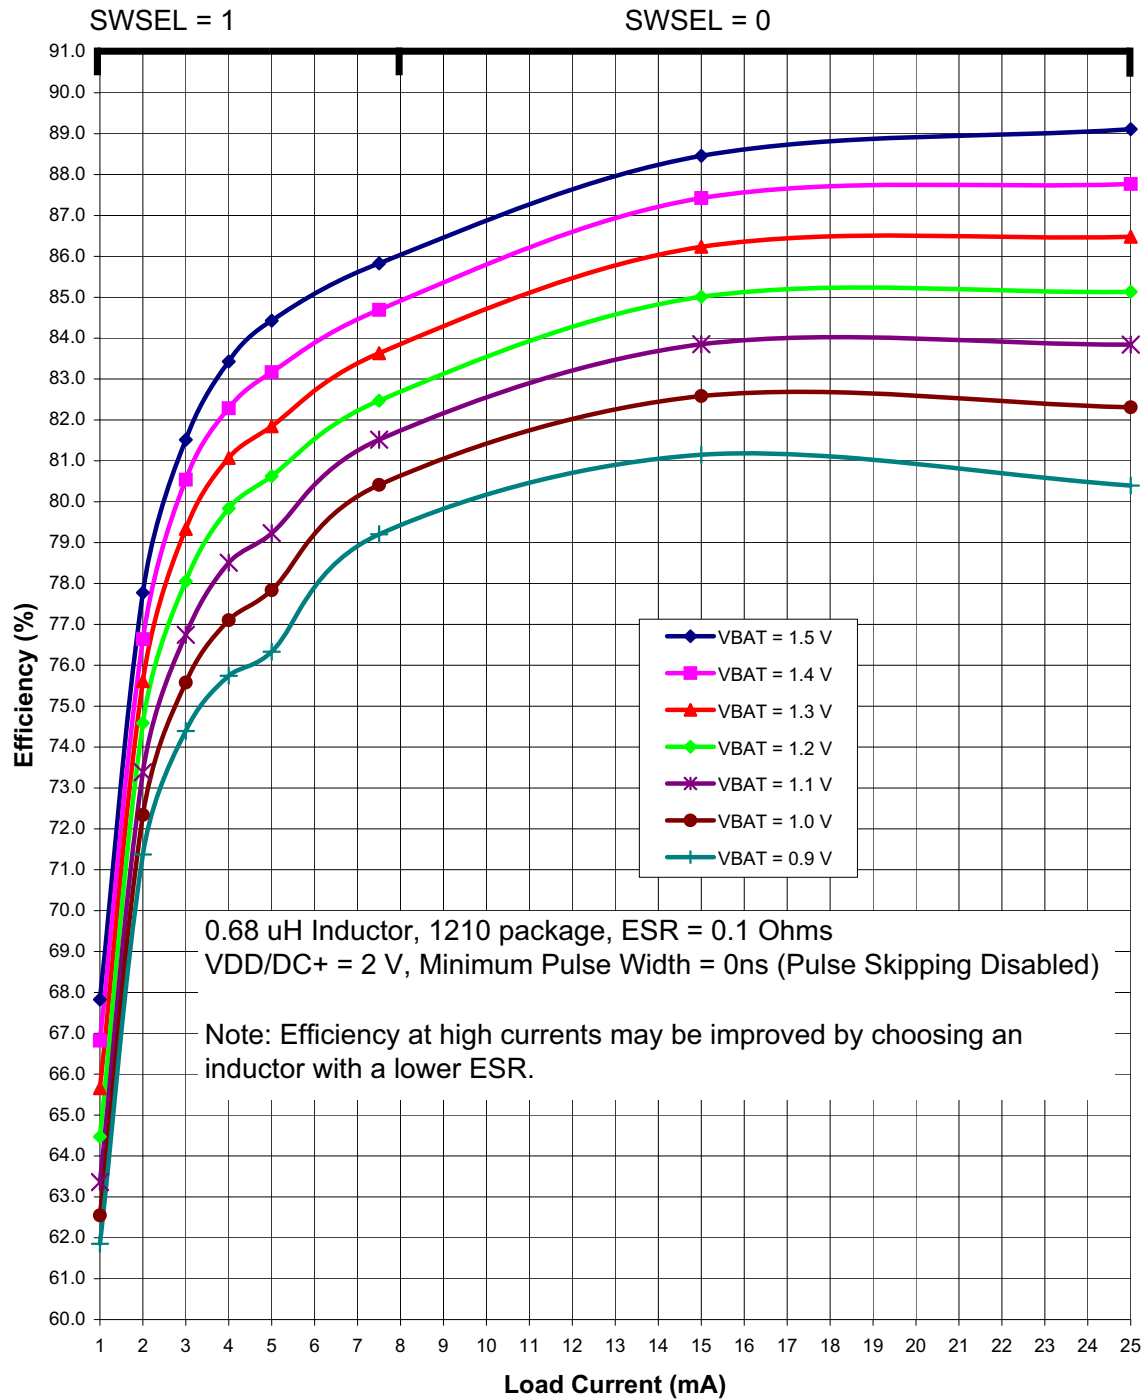
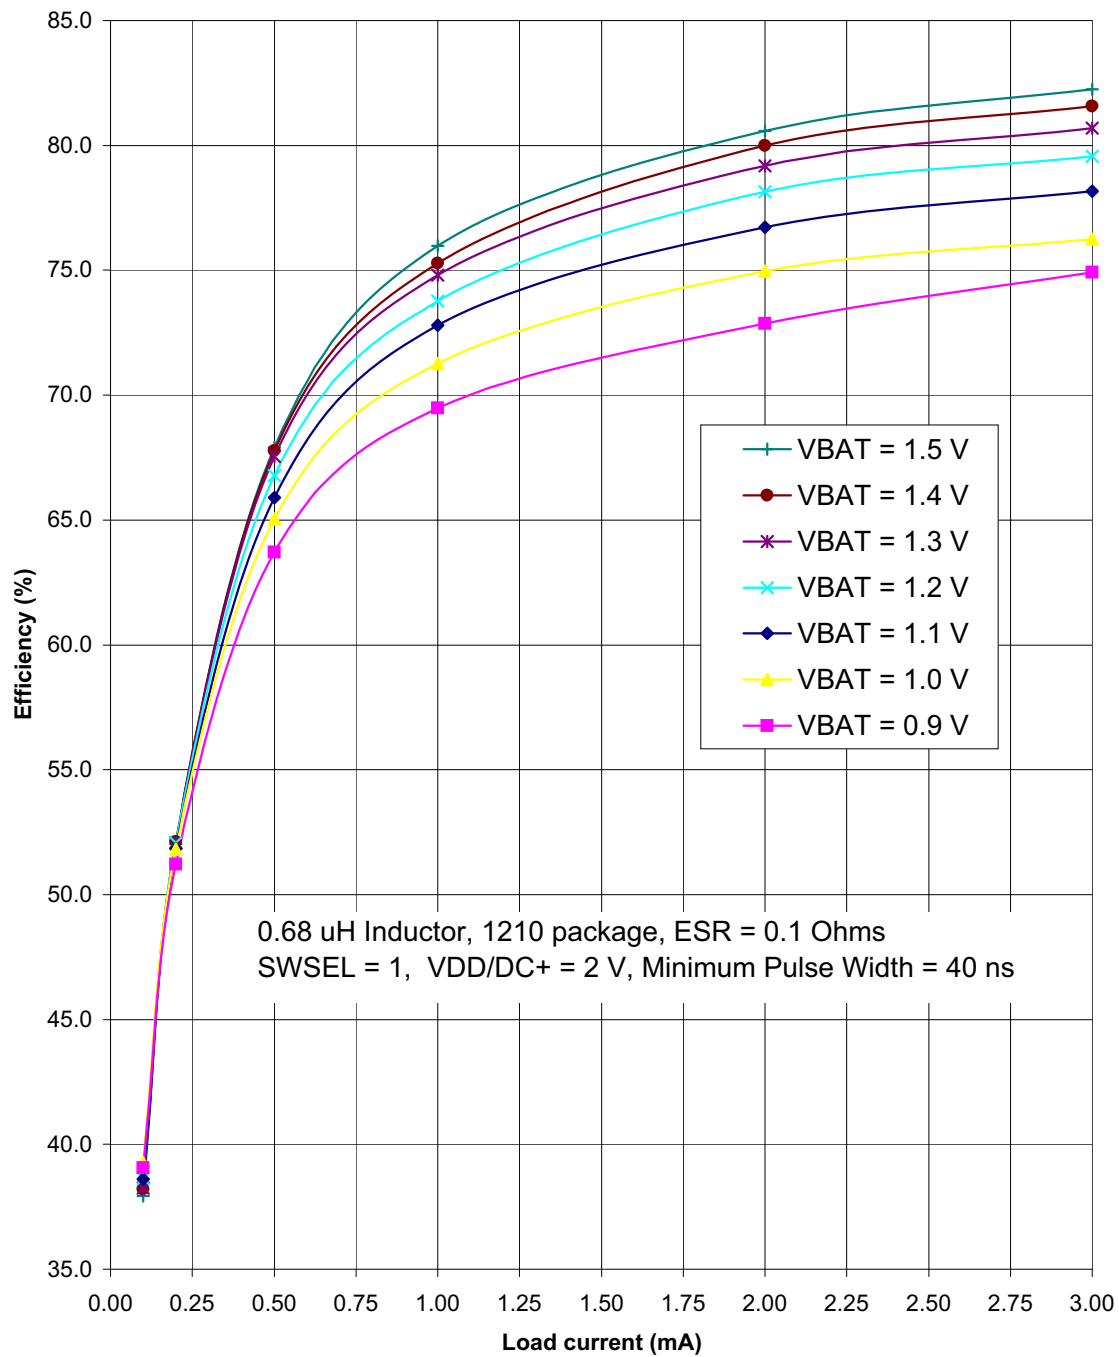

Figure 4.3. Typical DC-DC Converter Efficiency (High Current, VDD/DC+ = 2 V)
Figure 4.5. Typical DC-DC Converter Efficiency (Low Current, VDD/DC+ = 2 V)
Notes: <ol style="list-style-type: none"> Based on device characterization data; Not production tested. SYSCLK must be at least 32 kHz to enable debugging. Digital Supply Current depends upon the particular code being executed. The values in this table are obtained with the CPU executing an "sjmp \$" loop, which is the compiled form of a while(1) loop in C. One iteration requires 3 CPU clock cycles, and the flash memory is read on each cycle. The supply current will vary slightly based on the physical location of the sjmp instruction and the number of flash address lines that toggle as a result. In the worst case, current can increase by up to 30% if the sjmp loop straddles a 128-byte flash address boundary (e.g., 0x007F to 0x0080). Real-world code with larger loops and longer linear sequences will have few transitions across the 128-byte address boundaries. Includes oscillator and regulator supply current. IDD can be estimated for frequencies ≤ 10 MHz by simply multiplying the frequency of interest by the frequency sensitivity number for that range, then adding an offset of 90 μA. When using these numbers to estimate I_{DD} for >10 MHz, the estimate should be the current at 25 MHz minus the difference in current indicated by the frequency sensitivity number. For example: $V_{DD} = 3.0$ V; $F = 20$ MHz, $I_{DD} = 4.1$ mA – $(25 \text{ MHz} - 20 \text{ MHz}) \times 0.120 \text{ mA/MHz} = 3.5$ mA. The Supply Voltage is the voltage at the VDD_MCU pin, typically 1.8 to 3.6 V (default = 1.9 V). Idle IDD can be estimated by taking the current at 25 MHz minus the difference in current indicated by the frequency sensitivity number. For example: $V_{DD} = 3.0$ V; $F = 5$ MHz, Idle $I_{DD} = 2.5$ mA – $(25 \text{ MHz} - 5 \text{ MHz}) \times 0.095 \text{ mA/MHz} = 0.6$ mA. The supply current specifications in Table 4.2 are for two cell mode. The VBAT current in one-cell mode can be estimated using the following equation: $\text{VBAT Current (one-cell mode)} = \frac{\text{Supply Voltage} \times \text{Supply Current (two-cell mode)}}{\text{DC-DC Converter Efficiency} \times \text{VBAT Voltage}}$ <p>The VBAT Voltage is the voltage at the VBAT pin, typically 0.9 to 1.8 V. The Supply Current (two-cell mode) is the data sheet specification for supply current. The Supply Voltage is the voltage at the VDD/DC+ pin, typically 1.8 to 3.3 V (default = 1.9 V). The DC-DC Converter Efficiency can be estimated using Figure 4.3–Figure 4.5.</p> The radio peripheral is placed in Shutdown mode.